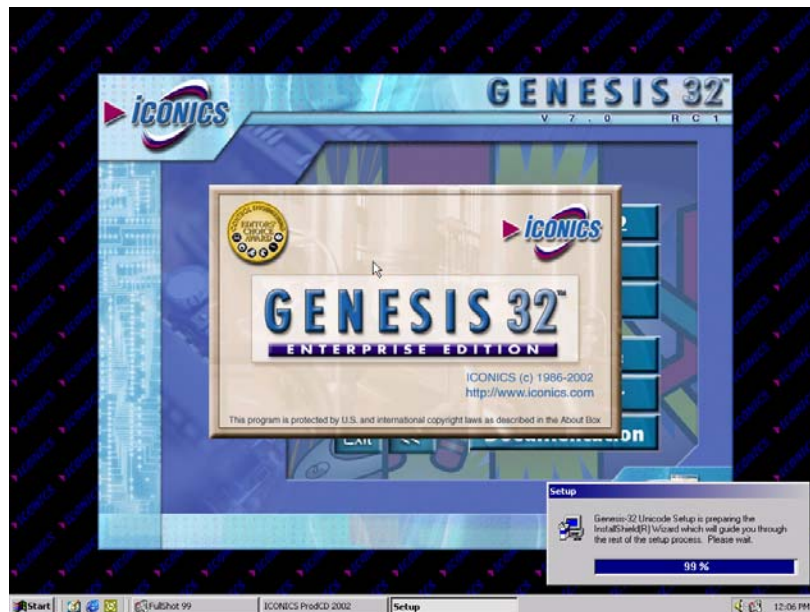

Figure 2.12
2. Installation of GENESIS32 will start with Figure 2.12.